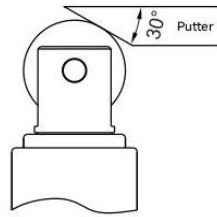

Figure 2
- The operation mode, shape, frequency and overtravel of the cam and push rod will greatly affect the life and accuracy. Therefore, it is recommended that the push rod angle should be below 30°, the surface roughness should be above 6.3, and the hardness should be Hv=400~500 (see Figure 2).